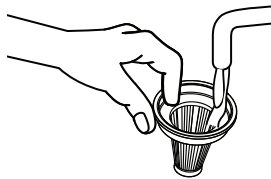

Fig.20
- After repeated use, it may be necessary to wash the filter. First brush loose debris from the filter cloth, then hand wash in warm water. After washing, set it aside and allow it to air dry (Fig.20).